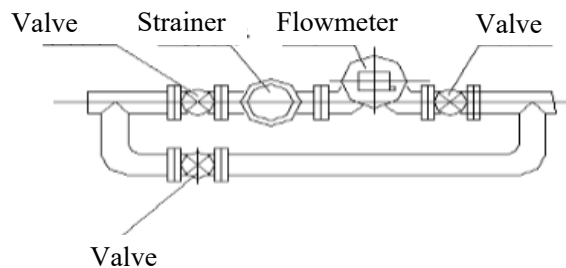

FIG. 7
2.2 Open bypass valve 3, see Figure 7.